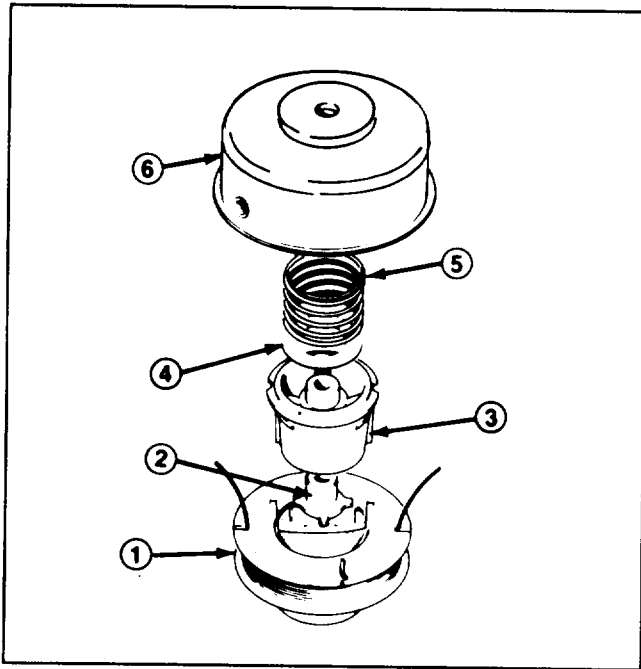

Figure 22
2. Insert medium blade screwdriver in one of two windows slots on spool hub and twist screwdriver 1/4 turn (Fig. 22). Spool will snap off.